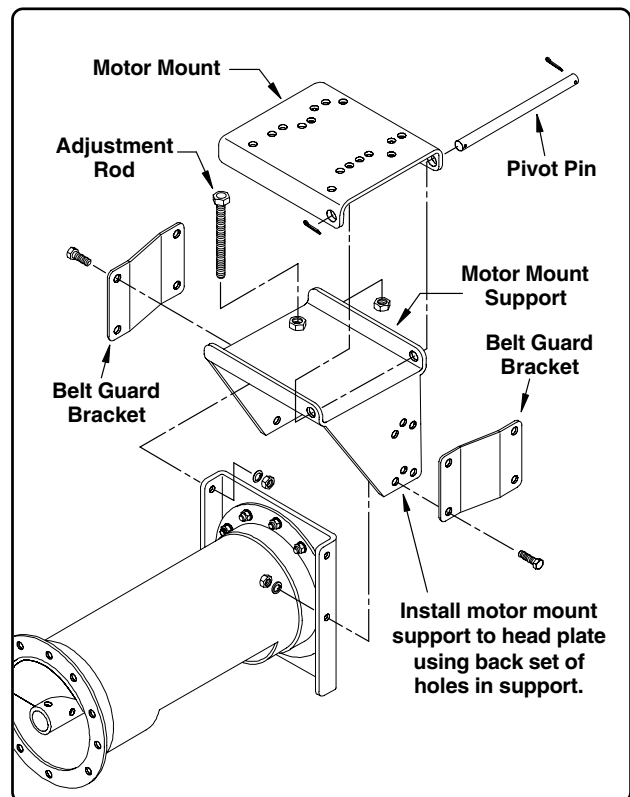

FIG. 14
4. Fasten the motor mount support and belt guard brackets to the head plate using the **back** pair of holes in each side of the support. Secure using four (4) 1/2" x 1 1/4" bolts, lock washers and non-lock nuts (See Fig. 14).